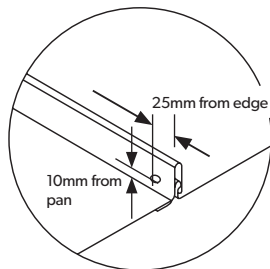

Figure 12.2.4:
3. Align and engage the next sheet as shown in Figure 12.2.4 and then screw fix as per Step 2.